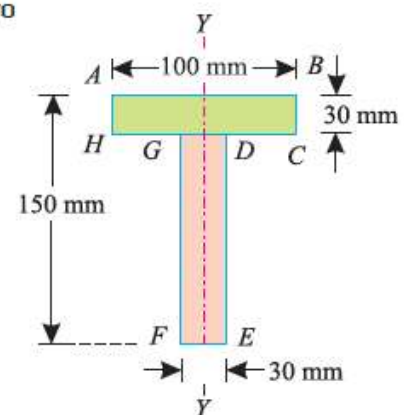

Fig. 6.10.
**Solution.** As the section is symmetrical about Y-Y axis, bisecting the web, therefore its centre of gravity will lie on this axis. Split up the section into two rectangles *ABCH* and *DEFG* as shown in Fig 6.10.